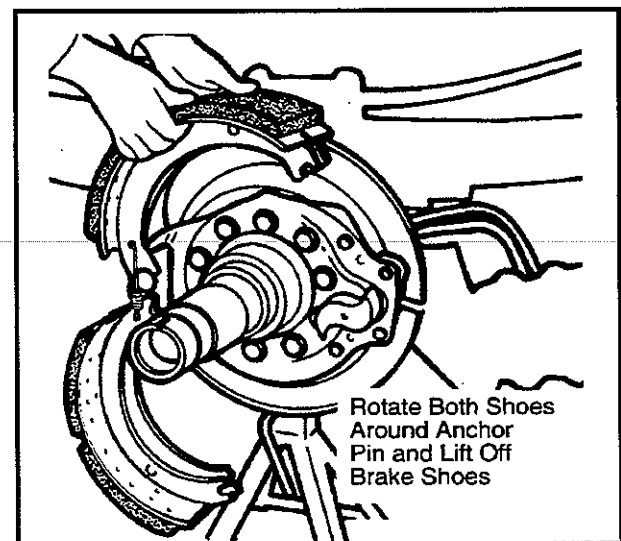

Figure 16—Rotate Shoes
12. Rotate both shoes around anchor pin and remove brakes. (See Figure 16—Rotate Shoes.)